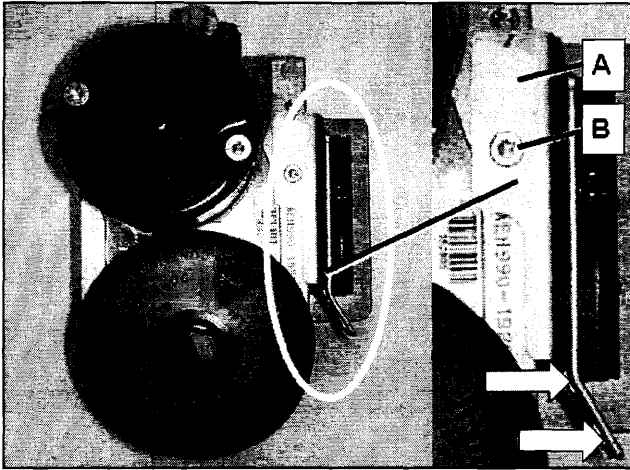

Figure 19
23. Attach bracket (A, Figure 19) to the SBC hydraulic unit:
- Using hand tools, tap threads into SBC hydraulic unit bores by running self tapping screw (B) into lower bore **without** mounting bracket positioned on SBC unit.
26. Insert a cable tie through slot (arrows, Figure 19) in bracket, **do not** close cable tie.